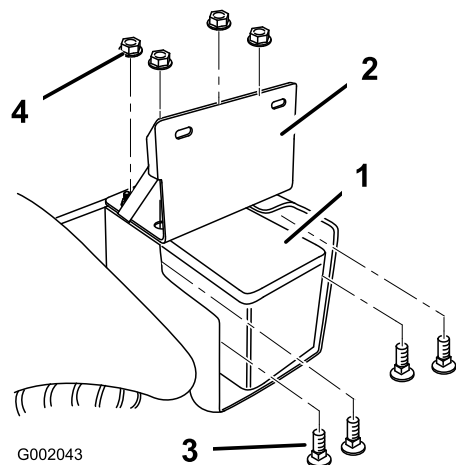

Figure 1
1. Mount the Multi-Pro 1200 series adapter bracket to the right side of the vehicle above the battery (Figure 1) using 4 carriage bolts (3/8 x 1-1/4 inches) and 4 flange locknuts (3/8 inch).